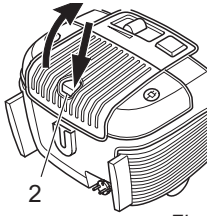

Fig.26
2. Open the blow-out filter cover (Fig. 26/1). To do this, press the lock (Fig. 26/2) back and pull the blow-out filter cover up.